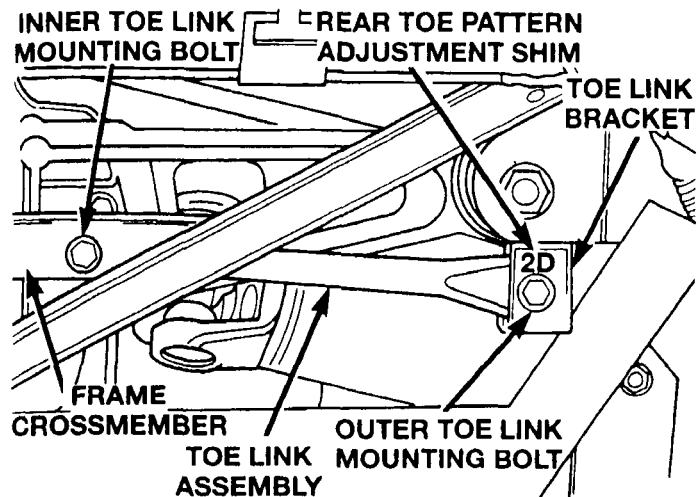

Figure 47
40. If previously removed, install the right and left toe links. While pulling down on the toe link, tighten the outer toe link bolt to 50 ft. lbs. (68 N·m). Then tighten the inner toe link mounting bolt to 50 ft. lbs. (68 N·m) (Figure 47).